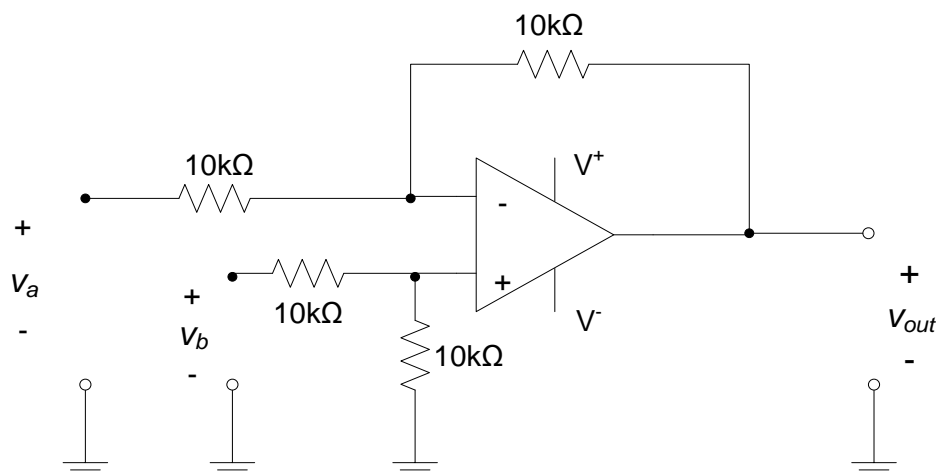

Figure 1. Difference amplifier circuit.
The circuit shown in Fig. 1 is called a difference amplifier. v_a and v_b are the applied (input) voltages to the circuit. v_{out} is the output voltage from the circuit.
Determine the relationship between v_a , v_b and V_{out} for the circuit shown in Fig. 1. Why is the circuit called a difference amplifier?
1. Implement the amplifier shown in Fig. 1, using an OP27 operational amplifier. Create a schematic of the circuit in your lab notebook, record actual resistance values, and label supply voltages on your schematic. Recommended connections are as follows: